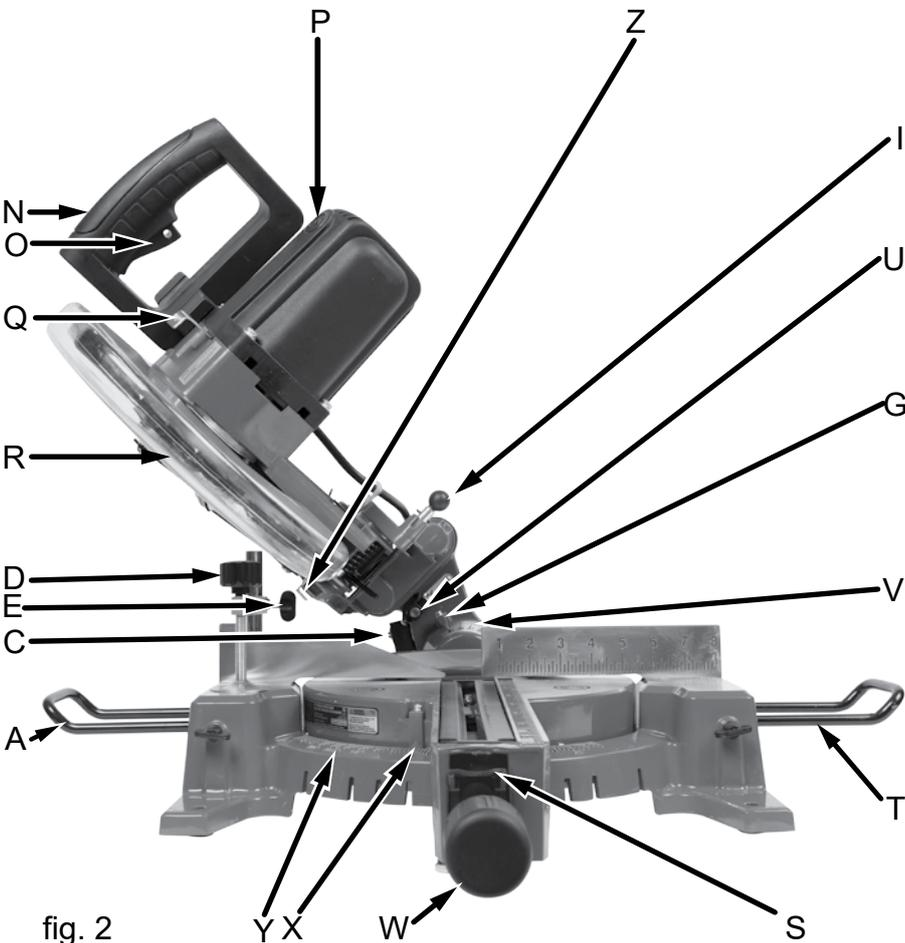

fig. 2
- To disengage the cutting head from its shipping and storage position, push down lightly on it and pull out the spring-loaded head locking button on the right side shown at I, fig.2. Turn it a quarter turn until the pin in the shaft rests in the small groove to hold the button out.